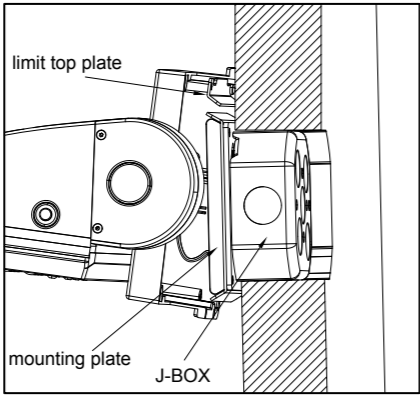
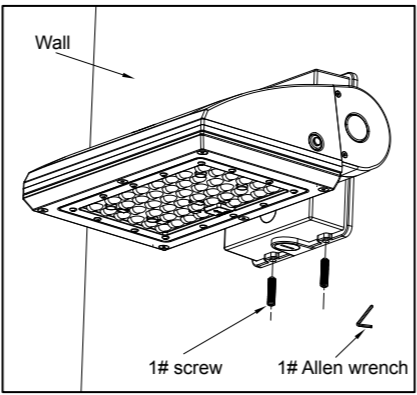

Figure 6
Figure 7
- 3). Arrange the power cord, hang the limit top plate of the lamp on the edge of the installed mounting plate(Figure 6),tighten and fix it with the set screw, and use the tool 1# hexagonal wrench, Figure 7.